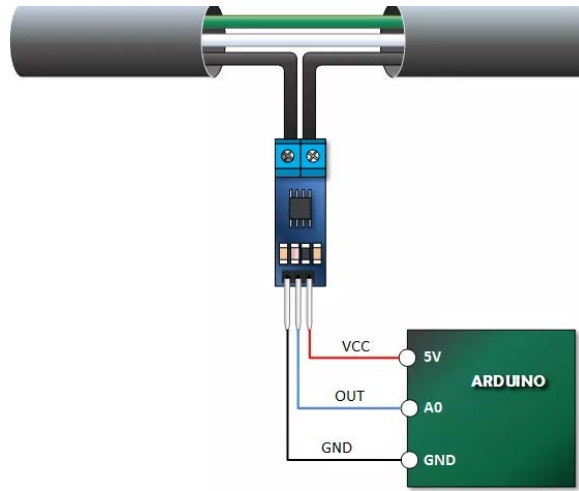

Figure 6: Current sensor (ACS712) [4]
6. Figure 6: Current sensor (ACS712)
On the other side, if a resistor is inserted into the measured circuit it would create a voltage drop, which might alternate the circuit performance. This circuit uses a current sensor to measure the input current from the solar panel. A good solution here is ACS712 [4]; the maximum current that ACS712 can measure will be 30 A. The output of the current sensor is voltage. MCU reads this voltage and then calculates the current. Figure 6 shows a current sensor.